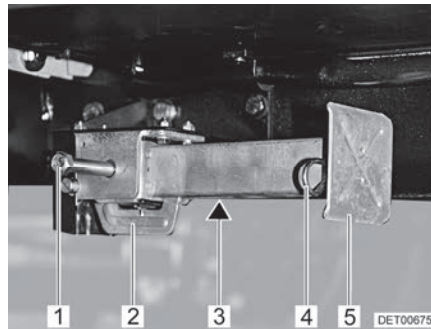

Fig. 21 Steady leg
- Place the socket spanner on the hexagonal nut (Fig. 21,1) and rotate until the steady leg is in a perpendicular downward position.
- If the length of the steady leg can be adjusted, remove the splint (Fig. 21,4) out of the support foot extension (Fig. 21,5).
- Place the socket spanner on the hexagonal nut (Fig. 21,1) and rotate until the steady leg is clear of the ground.
- Push in the support foot extension (Fig. 21,5) and insert the splint (Fig. 21,4) in the drilled hole in the support foot extension.
- Rotate the hexagonal nut (Fig. 21,1) until the steady leg has swung upwards and the guide (Fig. 21,2) has reached the very end of the slot (Fig. 21,3).